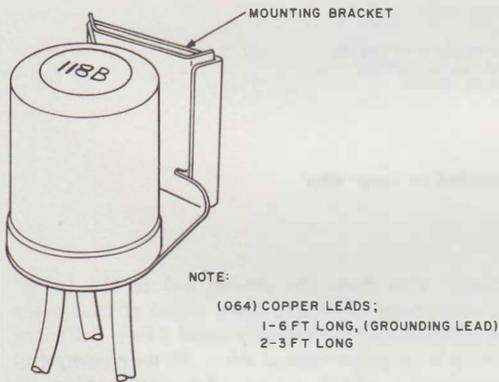
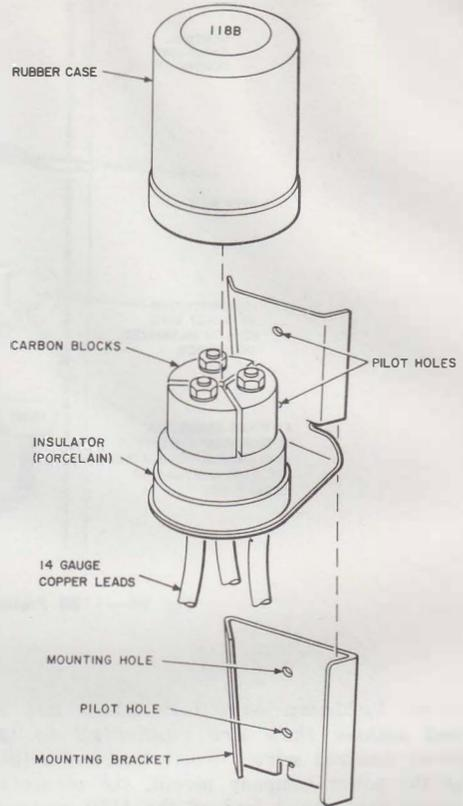

Fig. 92—118B Protector
Fig. 93—118B Protector, Disassembled
13.01 The 118B protector (Fig. 92), which supersedes the 99C protector, is designed to protect telephone circuits in the event of an accidental contact between power wires (of the MGN-type and carrying over 2000 volts) and telephone wires. The 118B protector consists of three carbon electrodes, having 0.020-inch gaps, mounted on a porcelain base and enclosed in a rubber case (Fig. 93). Three No. 14 gauge insulated wire leads extend from the bottom of the protector. One lead, 72 inches long, is connected to ground (of the MGN power) and two leads, 36 inches long, are connected to the telephone line wires.